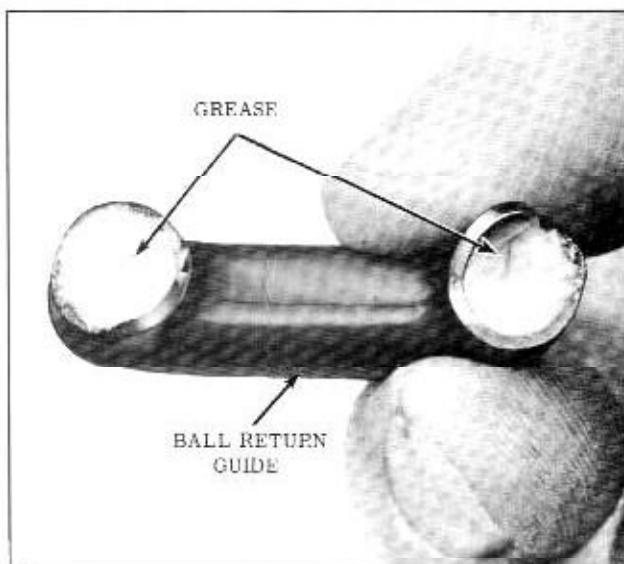

Fig. 4-41 Packing Ball Guides
4. Close this half of guide with the other half. Hold the two halves together and plug each open end with petrolatum so balls will not drop out while installing guide (Fig. 4-41).